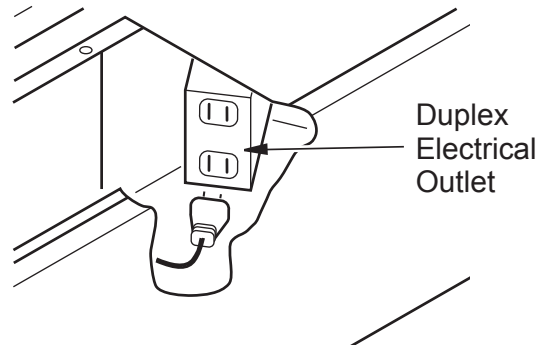

Figure 14 - Accessing Duplex Electrical Outlet Installed in Bottom Right Side of Firebox
⚠ WARNING: If there is a duplex electrical outlet installed in the right side of the bottom of the fireplace base area (see Figure 14), be sure that the electrical power to the outlet is turned off before proceeding with blower installation. Failure to do this may result in serious injury.
- Plug in blower power cord to duplex outlet (see Figure 14, page 14).